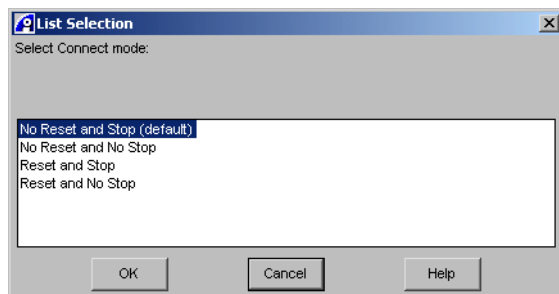

Figure 2-3 Connect Mode selection box
2. Select **Connect (Defining Mode)...** to display the Connect Mode list selection box shown in Figure 2-3 on page 2-13.
The selection box, shown in Figure 2-3 on page 2-13, offers a series of state options to make the connection. The options shown depend on the interface software that manages the target connection and so vary depending on the connection entry you select in the Connection Control window. In this example, the selection box contains an entry No Reset and Stop (default). This is either the:
You can specify a user-defined connect mode to display a prompt to enable you to choose the connection mode for each connection. In this case, RealView Debugger displays the Connect Mode selection box shown in Figure 2-3 on page 2-13. However, where the prompt setting is defined, the state options offered are all supported by the target vehicle and so do not include a default option.